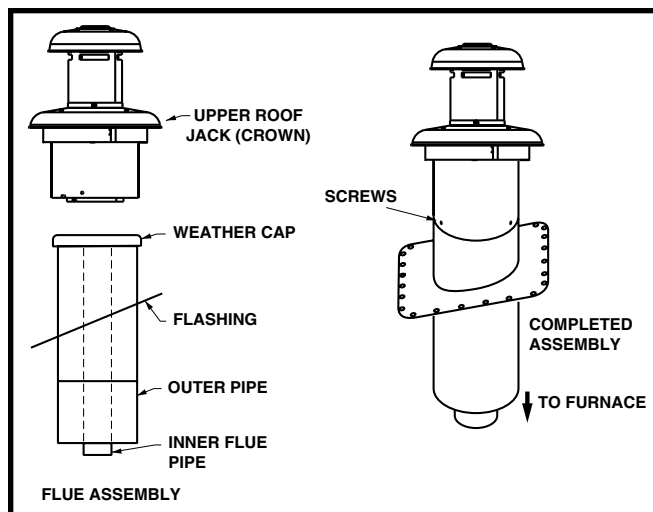

Figure 23. Roof Jack Crown
5. Transit-mode weather cap to be removed and upper roof jack crown installed. See Figure 23. Do Not Discard screws.